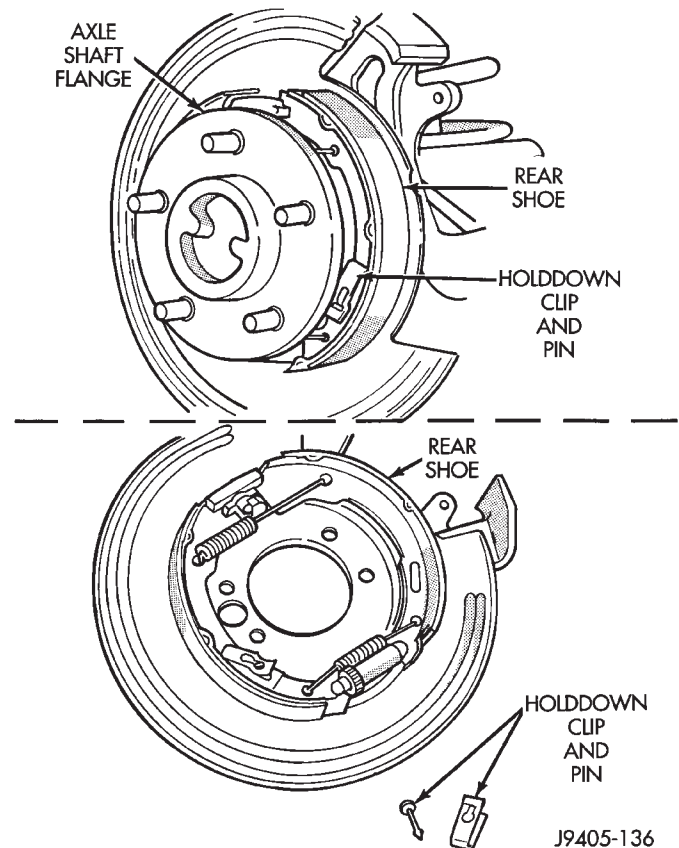

Fig. 48 Hold-Down Clip And Pin
- (6) Remove rotor from axle hub flange.
- (7) Remove shoe hold-down clips and pins (Fig. 48). Clip is held in place by pin which fits in clip notch. To remove clip, first push clip ends together with thumb or forefinger. Next, slide clip upward until head of pin clears narrow part of notch. Then remove pin and clip.